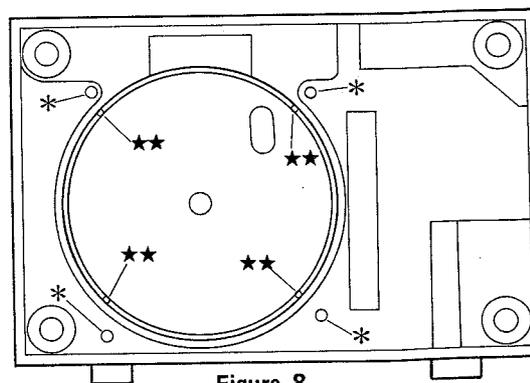

Figure 8
- c) Remove the fifteen mounting screws marked (※) from the BACK COVER. Then, remove the four mounting screws marked (★★) from the COVER-BOTTOM. (See Figure 8.)
**3-2 THE CABINET REMOVAL (Figure 8)**